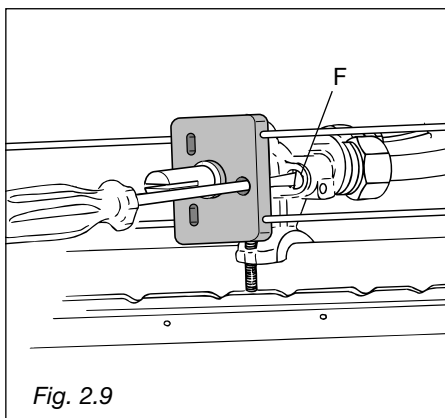

Fig. 2.9
- With a thin screwdriver pass by the hole of microswitch and turn the screw F until adjustment is correct (fig. 2.9).